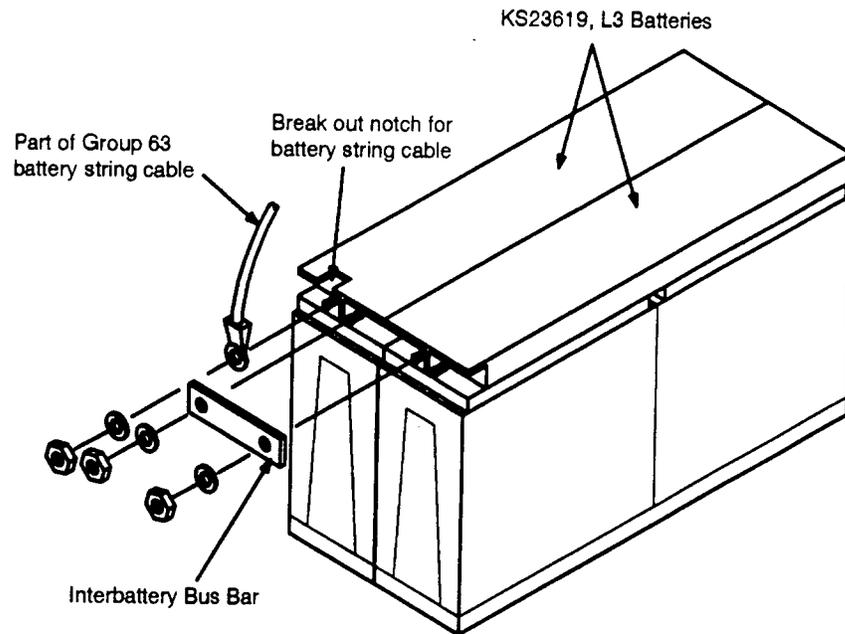

Figure 2 — Battery String Connections for Lineage 2000 VR Series Batteries
9. Coat interbattery bus bars with NO-OXid grease and install on the batteries as shown in Figure 2. Install 1/4 inch lock washer and nut on battery post. Using insulated torque wrench with the socket, tighten nut to 55 inch-pounds torque. Repeat for each battery post until all 12 batteries are connected together.
10. Cut a notch in the cover of the battery No. 1 (above "-" battery post) and battery No. 12 (above "+" battery post) (see Figure 2). This is required to install the battery string cable.
11. Connect the battery string cable to battery No. 1 by terminating the lug marked **BAT 1 (-)** to the "-" (negative) battery post of the first battery in the string (Figure 2). Connect the battery string cable to battery No. 12 by terminating the lug marked **BAT 12 (+)** to the "+" (positive) battery post of the 12th battery as shown in Figure 2. Install the lock washer and nut on the battery posts. Use insulated torque wrench to tighten the nuts to 55 inch-pounds torque.